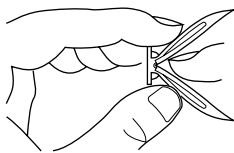

Figure 21 - Folding Anchor
2. Fold floor anchor as shown in Figure 21.